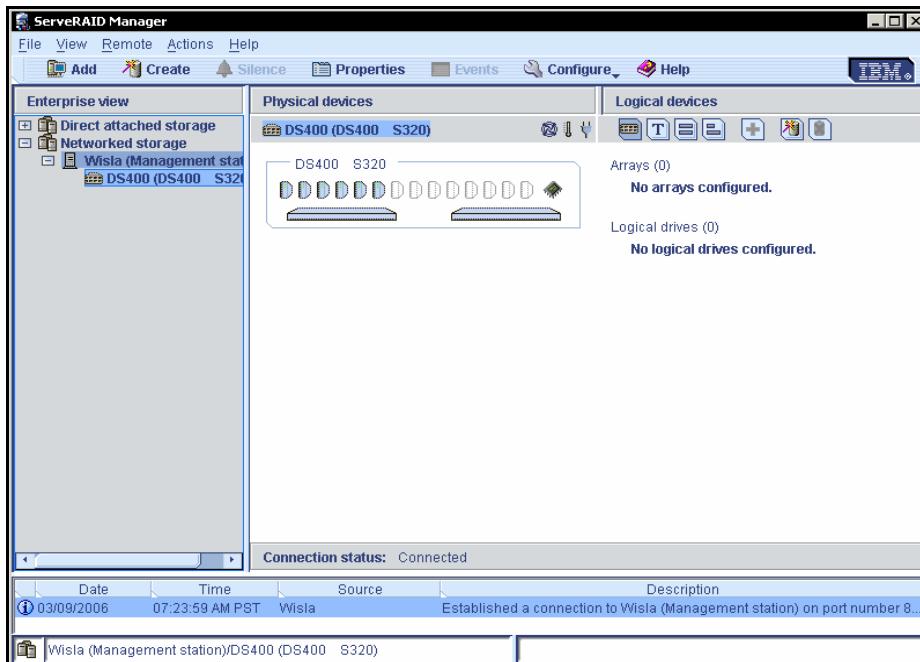

Figure 30 DS400 storage as seen via ServeRAID Manager
- f. Click **Add**. The storage is now visible in the right side of the ServeRAID Manager program interface as shown in Figure 30.